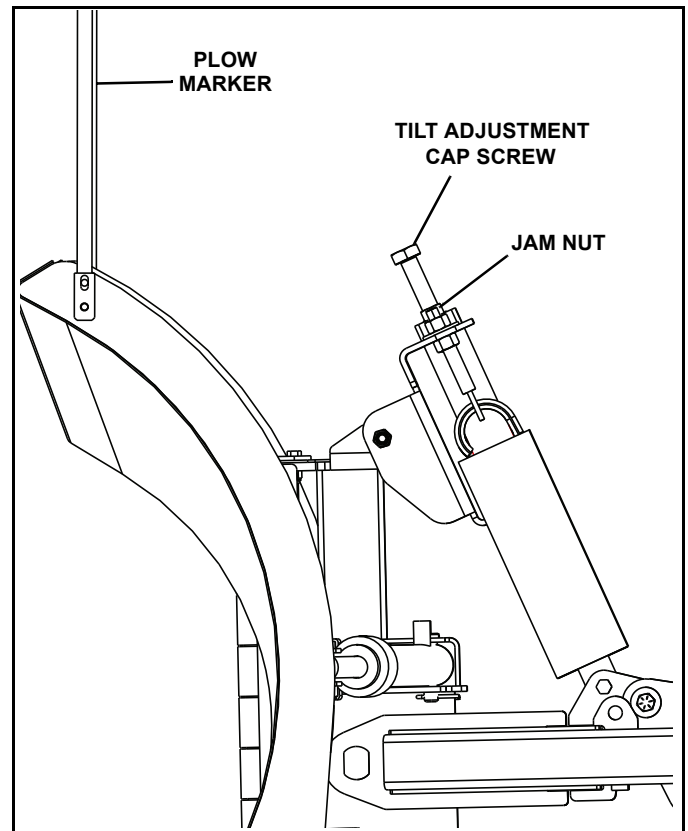

Figure 1-16
2. Loosen jam nut on the tilt adjustment cap screw located in the center section of the plow trip mechanism. (See Figure 1-16.)